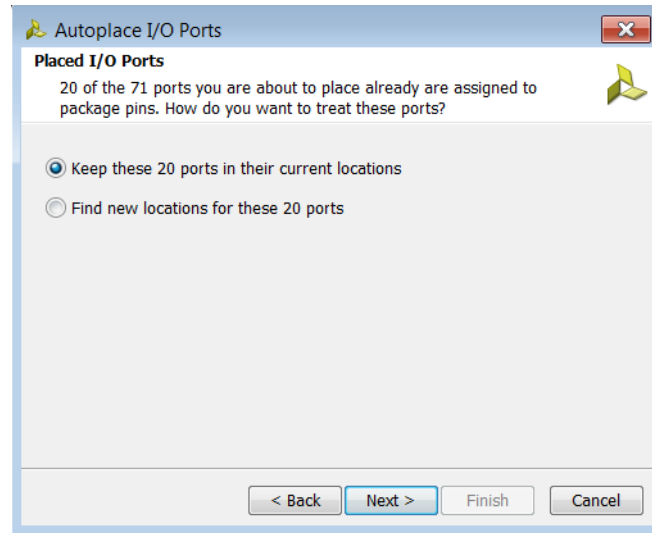

Figure 3-28: Autoplace I/O Ports Wizard—Placed I/O Ports Page
4. If you selected I/O ports that are already assigned to package pins, select an option in the Placed I/O Ports page (Figure 3-28), and click **Next**.